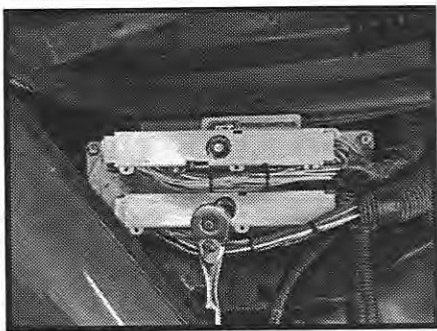

Figure 7
7. Install the factory wiring harness onto the JET module. (*see Fig. 7*). Turn the center bolt clockwise to slowly tighten the harness and module onto the computer. Make sure both the PCM and wiring harness get seated all the way down and straight.